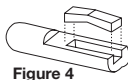
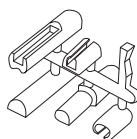

Figure 4
Figure 3
7. Temporarily mount the switch and place the original dial on the new switch shaft using one or more of the adaptors on the sprue tree (figure 3). Make sure the shaft goes in all the way. See figure 4 for assembly of spring clip to adaptor if applicable.